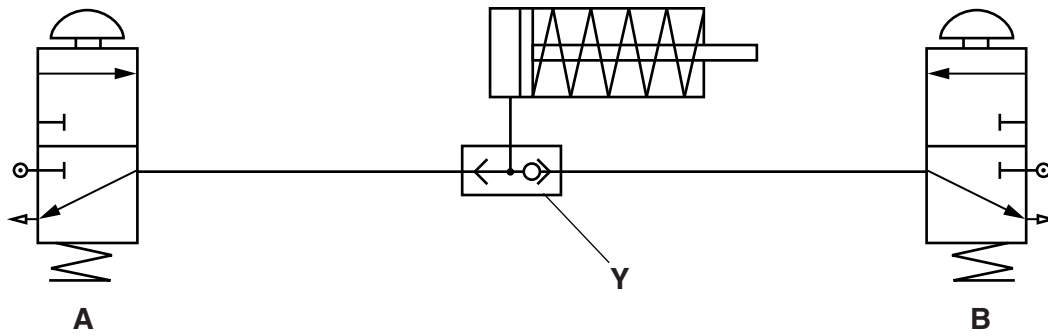

Fig. 7
4 Fig. 7 shows a pneumatic system.
- (a) (i) Name component **Y** shown in Fig. 7.
- (iii) Describe the operation of the circuit shown in Fig. 7.